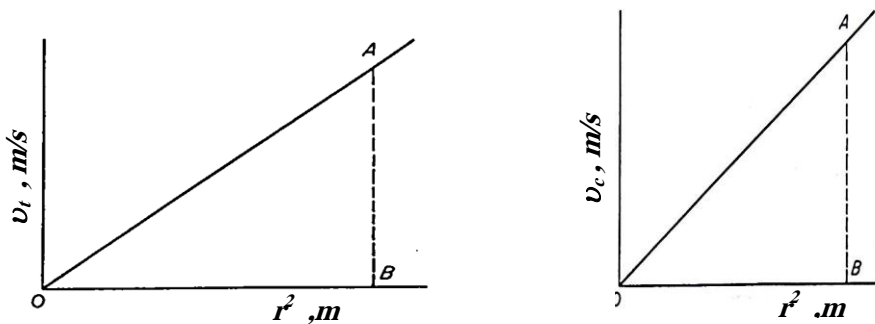

Figure 3
- 5- Calculate the velocity of each ball where $v_t = D/t_{av}$ and then calculate the corrected terminal velocity v_c using **equation (4)**.
- 6- Plot a graph of v_t versus r^2 , **Fig. 3**, get the **slope** of the straight line and substitute in **equation (3)** to get η , knowing that:
- 7- Plot another graph of v_c versus r^2 , **Fig. 3**, get the **slope** of the straight line and substitute in **equation (5)** to get η_c .